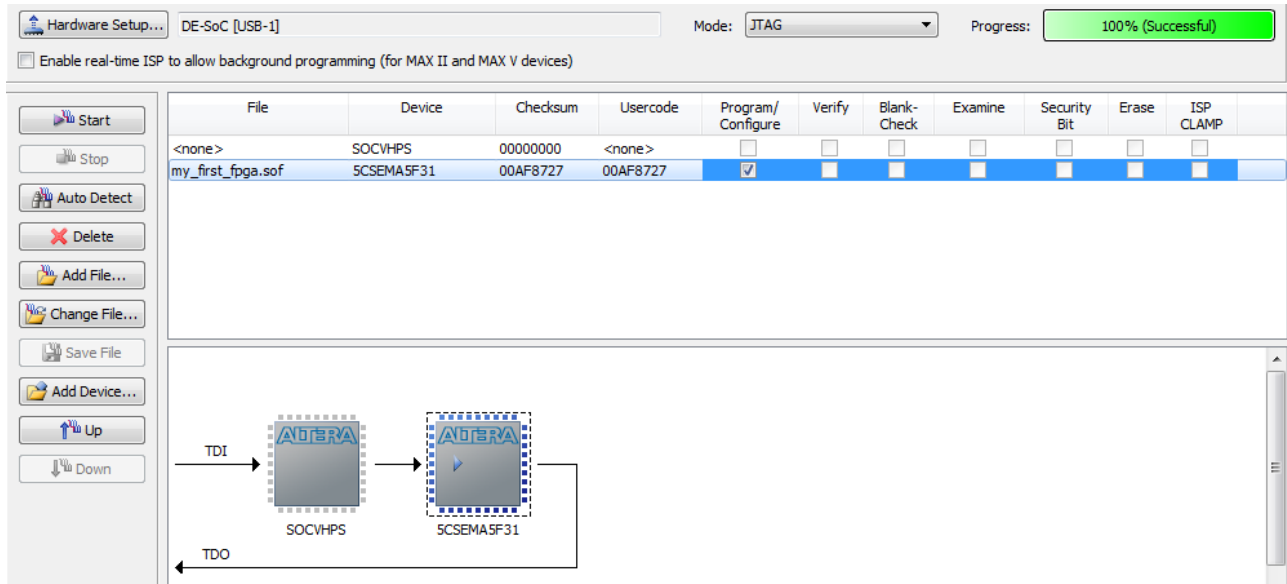

Figure 4-8 Downloading Complete
9. Select the `my_first_fpga.sof` file from the project directory (see Figure 4-8), select to Program/Configure and click Start to program .sof file into FPGA.